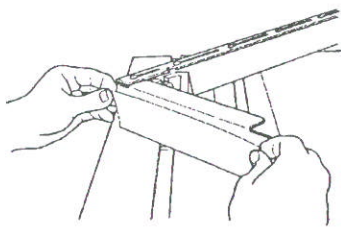
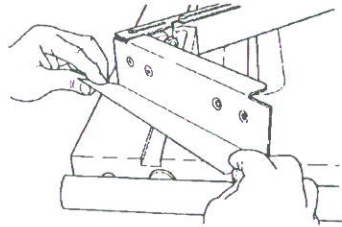

Fig.10
Fig.9
8. Hold it close to where it will cover the entire surface of the short extension, as in Fig.9. Keep 1/16" clearance between the bottom of the non-slip surface and the bottom of the extension. When in position, press the non-slip surface to the short extension. See Fig.10.
9. To install the long non-slip surface (11) on the long extension, repeat Steps 7 and 8, using the long non-slip surface.